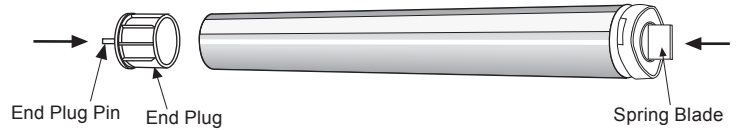

Fig. 4 Install Roller Spring and End Plug
Step 4. For best results, remove burs from the inside edge of the roller after cutting to the correct size. Insert the shade roller spring into the roller as shown in Fig. 4. This may require additional force, but do not push directly on the spring blade or the end plug pin.